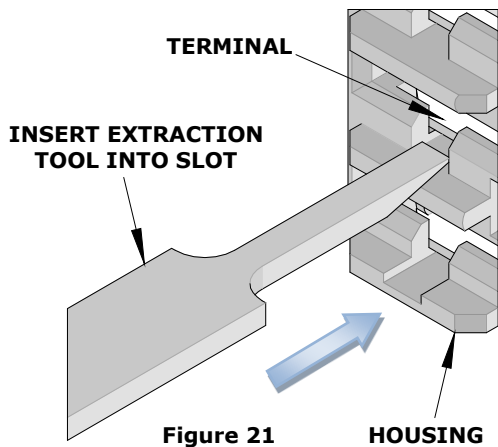

Figure 21
2. Insert the extraction tool into the slot below the terminal that is seated in the connector housing, and slide it forward until it stops. See Figure 21.